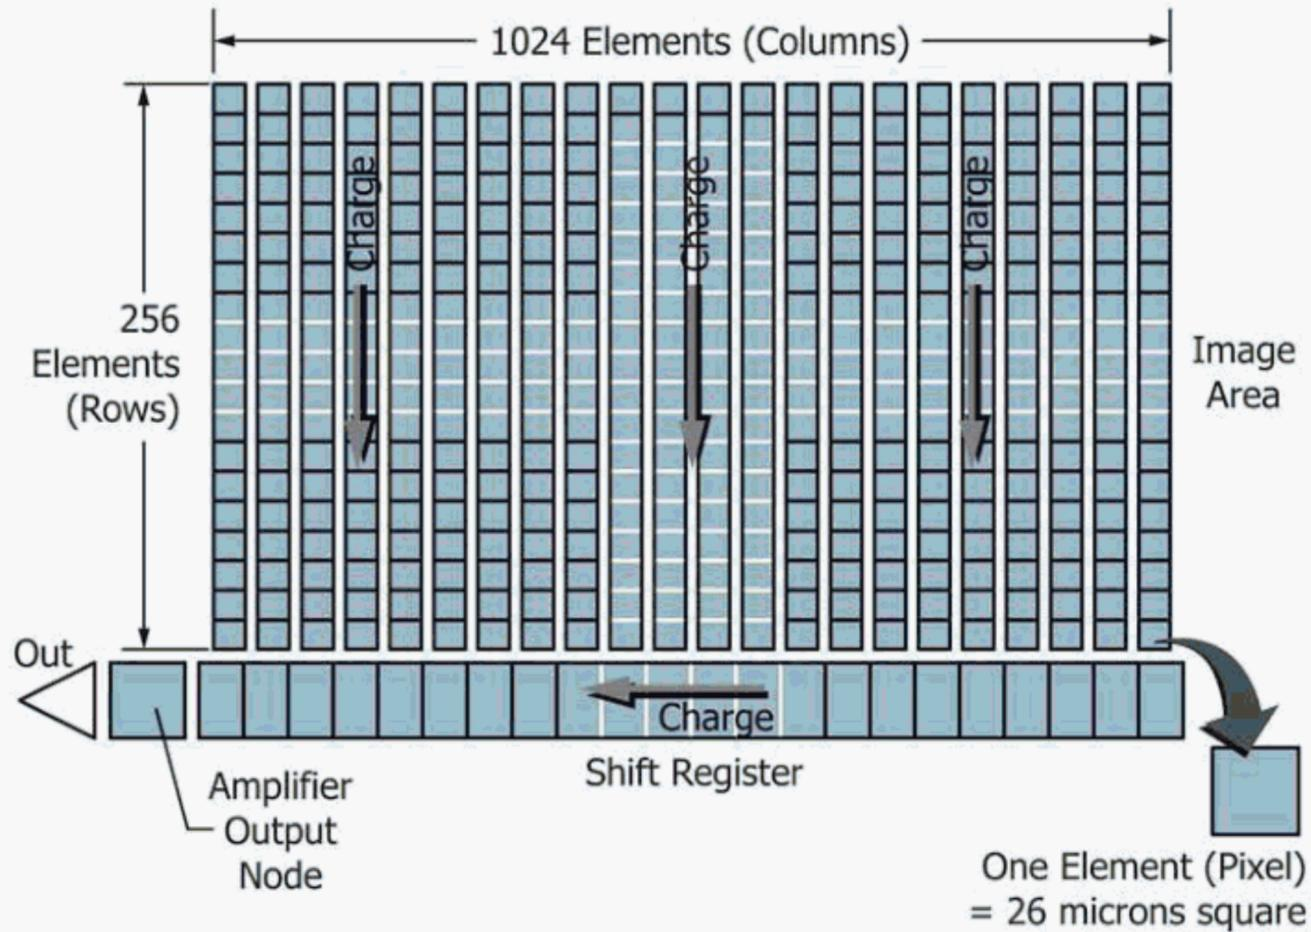

FIG. 3 Typical 1024 × 256 (26 × 26 μm2 pixel) Element CCD Sensor Used for Spectroscopy
**charge-coupled device (CCD),  $n$** —a silicon-based semiconductor chip consisting of a two-dimensional matrix of photo sensors or pixels (see Fig. 3).
**full-frame CCD,  $n$** —a type of CCD that uses the entire silicon active area for photon detection. A shutter is required to eliminate image smear (see Fig. 3).